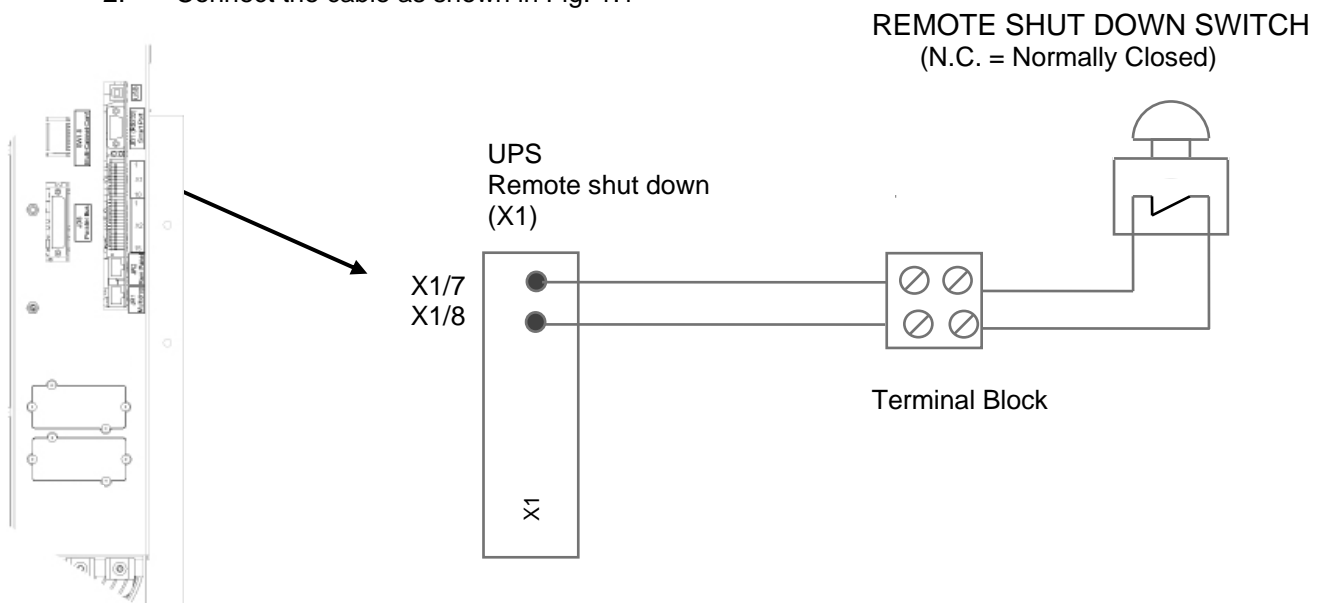

Fig 1.1 Drawing of the wiring for the REMOTE SHUT DOWN SWITCH PW33 60-300kW.
2. Connect the cable as shown in Fig. 1.1